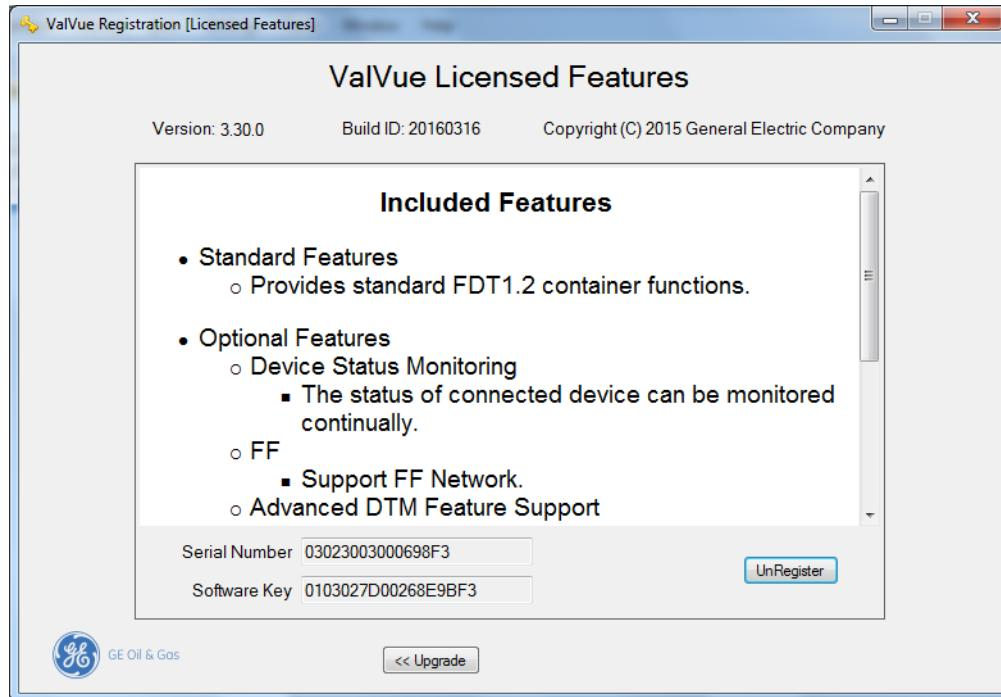

Figure 7 Included Features
1. Select **Tools > ValVue Licensing** and Figure 7 appears.